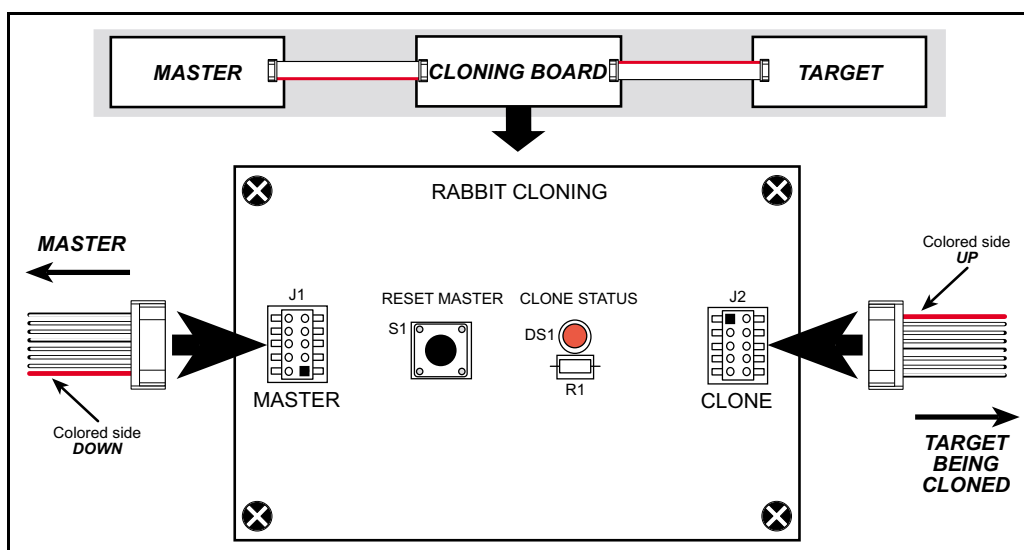

Figure 2. Cloning Cable Connections to the Rabbit Cloning Board
1. Use one of the cables supplied with the Rabbit Cloning Board to connect the **MASTER** header (J1) on the Cloning Board to the programming port of your master controller. Make sure that the colored side of the cable goes to pin 1 of the header as shown in Figure 2.
2. Use the other cloning cable supplied with the Rabbit Cloning Board to connect the **CLONE** header (J2) on the Cloning Board to the programming port of the target controller. Make sure that the colored side of the cable goes to pin 1 of the header as shown in Figure 2.